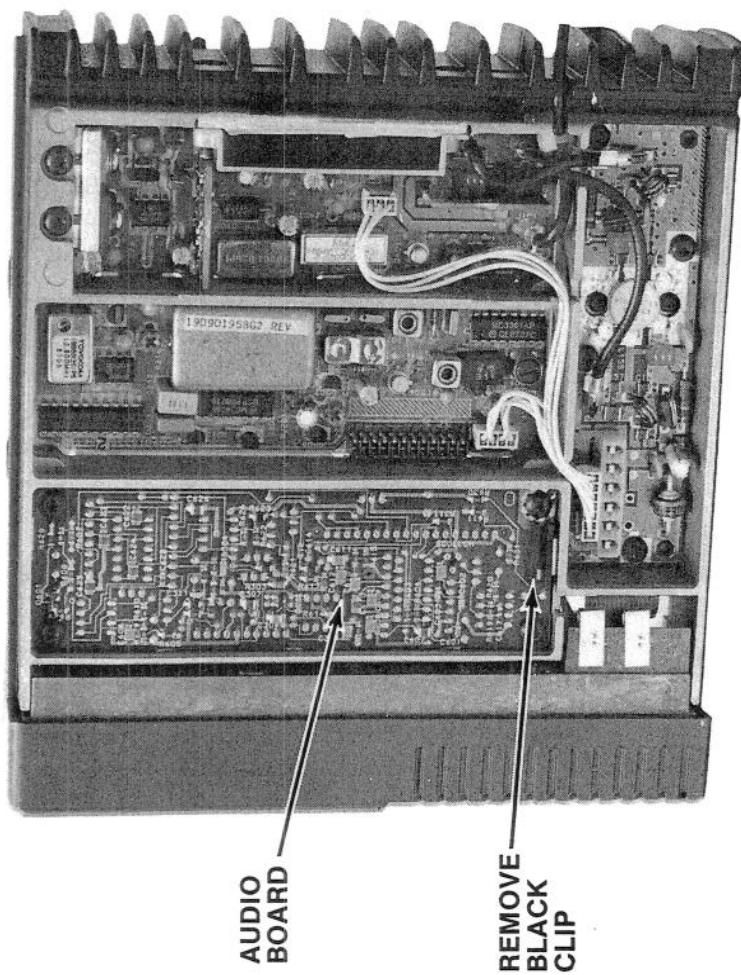

FIGURE 12 - TOP VIEW (COVER REMOVED)
2. Insert the orange and red leads into Pins 3, 6, or 9 of the connector housing. Insert the black lead into Pins 1, 4, or 7. Figure 12 provides an illustration of the empty connector housing which plugs into J1 of the power supply.